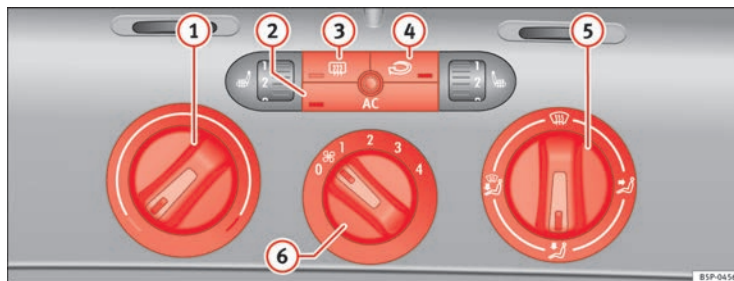

Fig. 126 On the dash panel: Climatic controls
- Using the knobs ⇒ fig. 126 ① and ⑤ and knob ⑥ you can set the temperature, air distribution and blower speed.
- To switch a function on or off, press the appropriate button ②, ③ or ④. When the function is activated, the display window in the lower corner of the button is lit.
- ① Temperature selector ⇒ page 162
- ② **AC** button – Heating, ventilation and air-conditioning system on/off ⇒ page 162
- ③ button – Heated rear window The heating will be switched off automatically approximately 20 minutes after switching on. It can also be switched off beforehand by pushing the button.
- ④ Button – Air recirculation mode ⇒ page 163
- ⑤ Air distribution control ⇒ page 162
- ⑥ Blower switch. There are four speed settings for the air flow. The air flow should always be set at the lowest speed when driving slowly.
- Switch on the air conditioner using the button ⇒ page 161, fig. 126 .